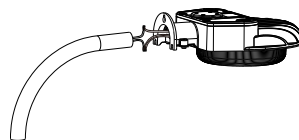

Figure 2
2. The connection of the wiring and protection measure should be made according to the local wiring regulations (Figure 2). Put the fixture into arm (the diameter of arm is 1.57-2.36 inch);